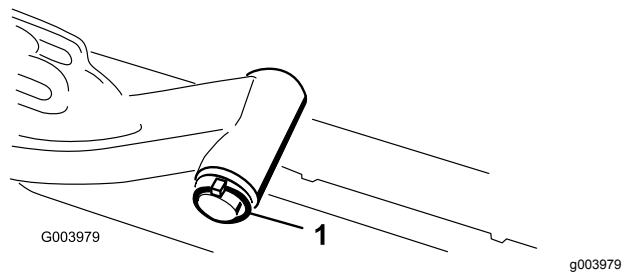

Figure 11
- A. Remove the lynch pin and washer securing the lift-arm-pivot shaft to the lift arm and slide the lift-arm-pivot shaft out of the lift arm (Figure 11).
C. Insert the lift-arm shaft into the lift arm and secure it with the washer and lynch pin (Figure 11).